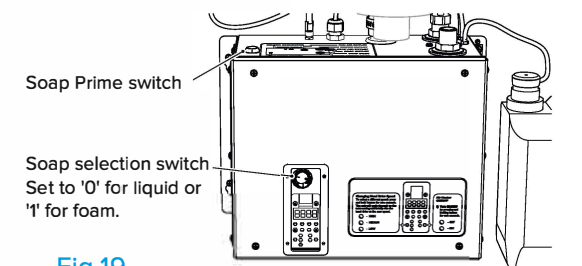

Fig 19
5. Press the soap prime switch until soap is dispensed from the tap head (See figure 19).